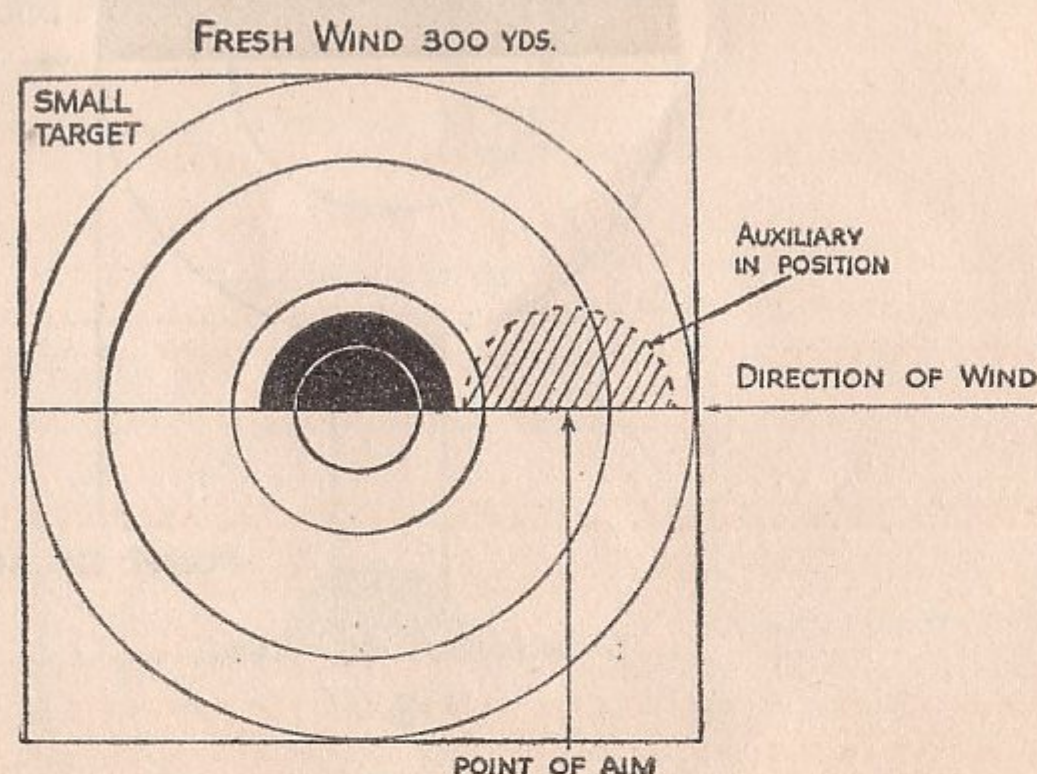

Fig 8.
- iii. Check aims by auxiliary aiming mark (see Fig. 8).